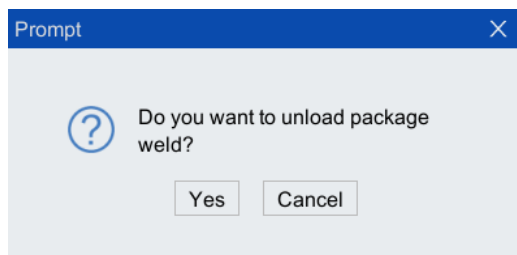

Fig. 3-9 "Feature Pack Management" dialog box
Step 3. Select the line where the arc welding feature pack is located, and click the "Uninstall" button to pop up the dialog box, as shown in Fig. 3-9.